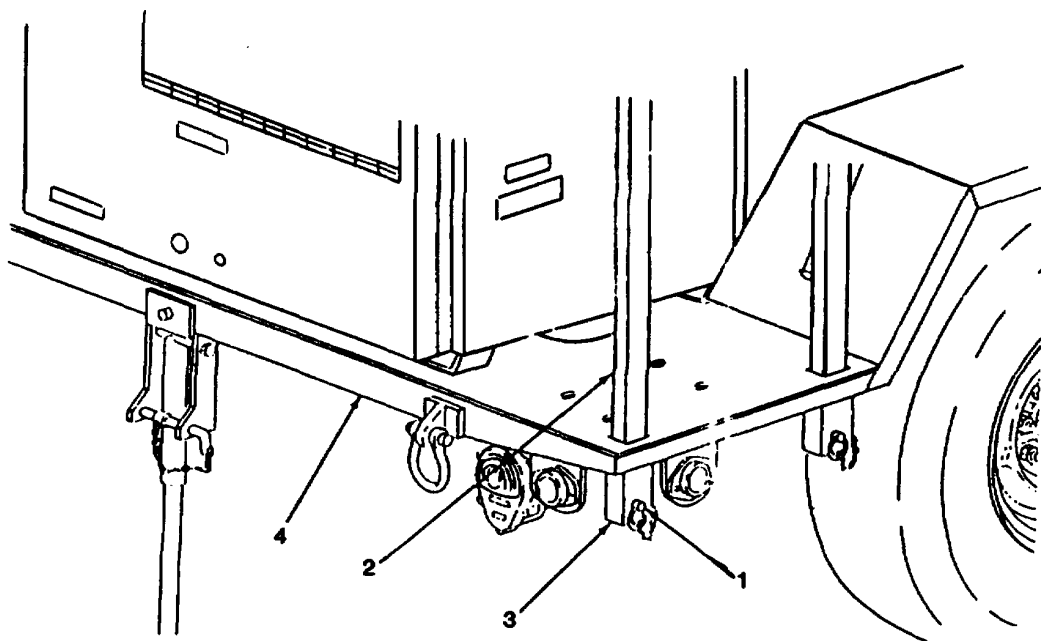

Figure 3-4. Bow Assembly Replacement on AN/MJQ-33.
- (c) Remove two quick release pins (1, figure 3-4) securing bow assembly (2) in pocket (3) on trailer body (4). Lift each bow out of pocket and off trailer body.
(2) Installation.
- (a) Lift each bow (2, figure 3-4) on trailer, align bow ends with pockets (3) in trailer body (4) and drop bow in place. Secure each bow assembly with two quick release pins (1) provided.